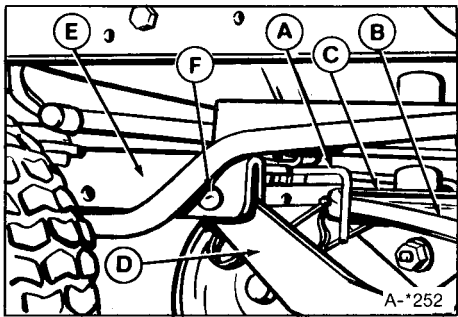
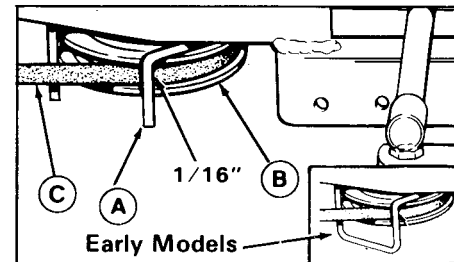

Figure 3. L.H. Belt Stop
Figure 5A. Right-Hand Belt Stop - 36" Mowers
8. Lift up front of mower and insert pins (F, figure 3) to attach mower hitch arms to tractor hitch (E). (You can insert a pry bar under front edge of deck to raise.)
10. Slip the mower drive belt onto the engine PTO pulley loosening belt stops as necessary. The left-hand belt stop for 42" mowers is shown in figure 3. The right-hand belt stop for 36" mowers is shown in figure 5A. Position belt stops 1/16" from belt.